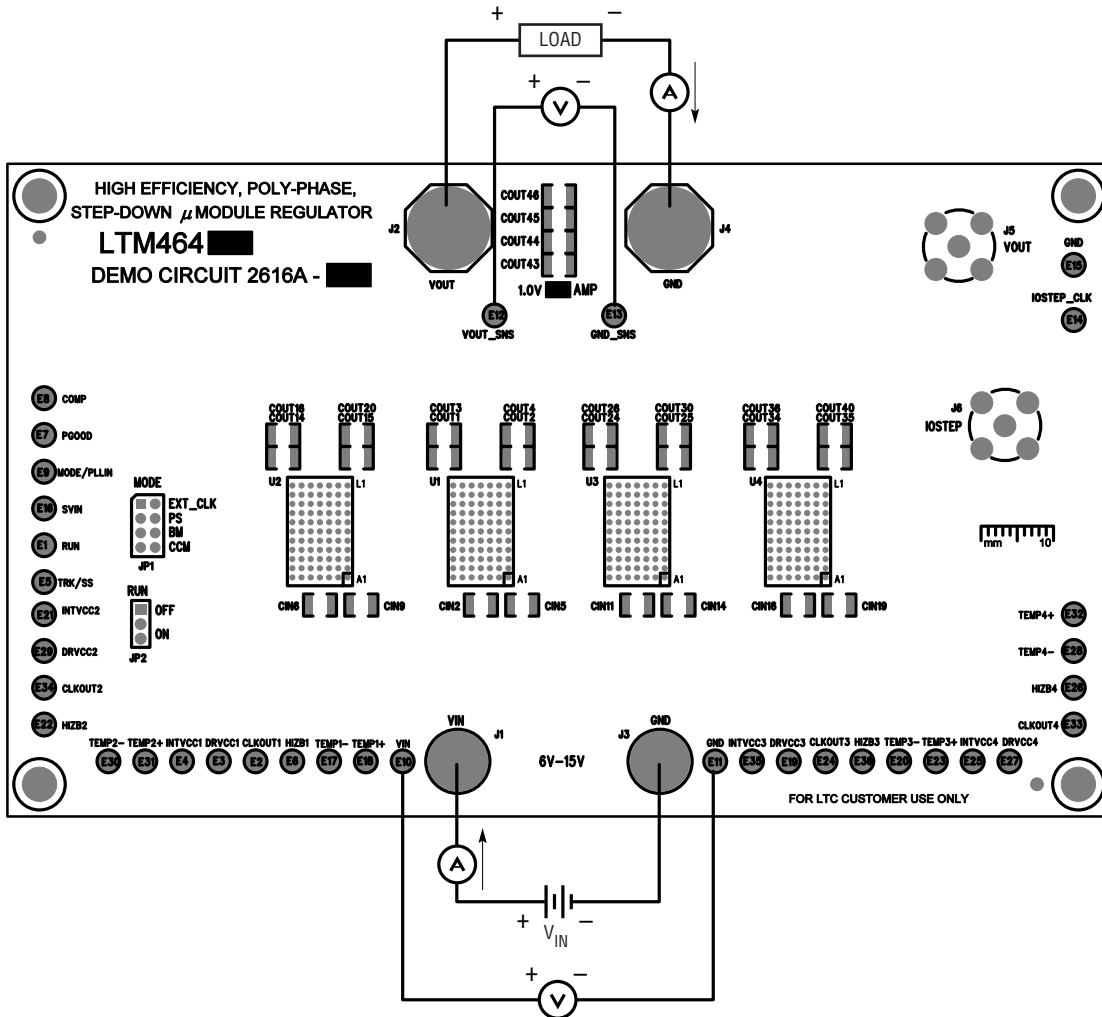

Figure 1. Measurement Setup of DC2616A-C
Demonstration circuit DC2616A-C is an easy way to evaluate the performance of polyphase operation of the LTM4645EY. Due to the high input/output current, the user should select the proper input supply/load/cable which can sustain the full load operation. Please refer to Figure 1 for proper measurement equipment setup and follow the procedure below:
2. With power off, connect the input power supply, load and meters as shown in Figure 1. Preset the load to 0A and  $V_{IN}$  supply to 12V.